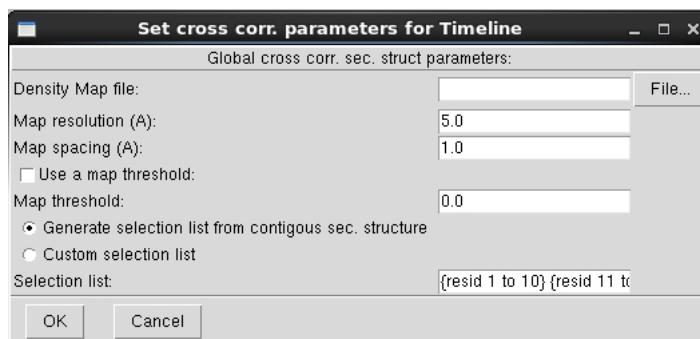

Figure 22: Cross correlation parameters
- 4 You should now see a window containing options for setting the parameters of the cross correlation calculation, similar to the one in Fig. 22. First you must select the density map used earlier for the MDFF fitting. This should be the same density map you provided in the MDFF Setup GUI (`lake-target_autopsf.situs`), and not the resulting potential file. The next two options, map resolution and spacing, control how the simulated density is computed. The simulated density is made from your structure, which is then compared to the experimental density you fit the structure into. The resolution should be the same as the resolution of the experimental density. For the tutorial, you can leave both default values.